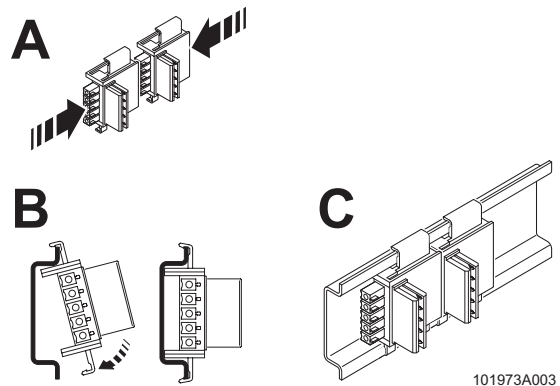

Figure 8 Combined assembly
- Connect together the required number of DIN rail connectors for the connection station. Two DIN rail connectors are required for each device (see A in Figure 8). A maximum of ten devices are permitted in a connection station.
- Place the device onto the DIN rail from above. The upper holding keyway of the device must be hooked onto the top edge of the DIN rail (see Figure 8). Make sure that it is aligned correctly with the DIN rail connectors.